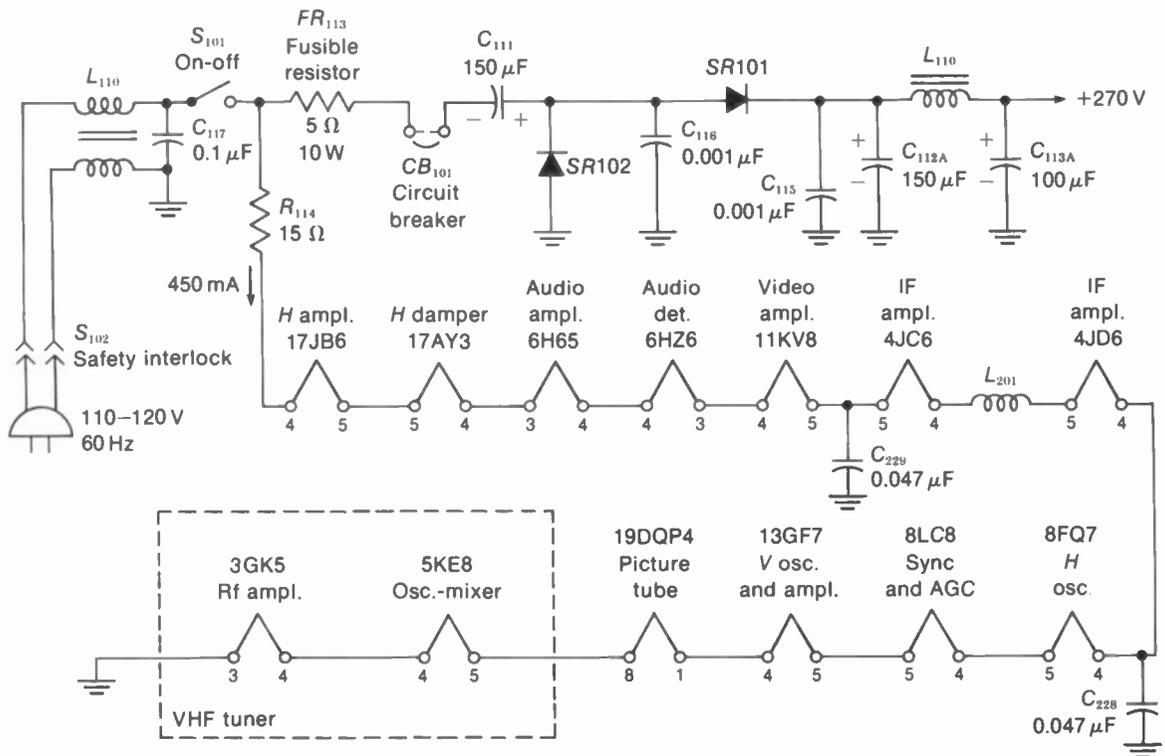

FIGURE 12-23 SERIES HEATER STRING WITH CASCADE VOLTAGE DOUBLER FOR LOW-VOLTAGE SUPPLY. (RCA MONOCHROME CHASSIS KCS 142)
the parallel heaters have the same 6.3-V rating, although the individual branch currents can be different. In the line-connected supply without a power transformer, all the heaters are connected in series to the ac power line (Fig. 12-23). Then the current is the same in all parts of the series string. Therefore, heaters with the same current rating must be used, although the individual heater voltages can be different.
**Series heaters.** In Fig. 12-23, all the heaters including the picture tube are in series across the power-line voltage of 110 to 120 V. The current is 450 mA in all these series heaters. The sum of the heater voltages here is 109 V. With the 6.8 V across  $R_{114}$ , the total of all the  $IR$  drops then is 115.8 V, approximately equal to the power-line voltage. The high-voltage rectifier is not in the series string, as it receives filament power from the horizontal output transformer.
**Order of series heater connections.** All the series heaters have the same current, but a point closer to the grounded end of the string has less potential difference to chassis ground for 60-Hz voltage. Therefore, less hum voltage can be coupled into the signal circuits by heater-cathode leakage in the tube. This factor is why the tubes in the VHF tuner are last in the string, while the horizontal deflection amplifier and damper tubes are first, as in Fig. 12-23.
the heater pins or measuring from one pin to chassis ground. For instance, in Fig. 12-23 the ac voltage across the heater pins 4 and 5 of the 17JB6 is 17 V. However, from pin 4 to ground, you measure 109 V of the ac line voltage. At pin 4 to ground, the ac voltage is 17 V less, or 92 V.